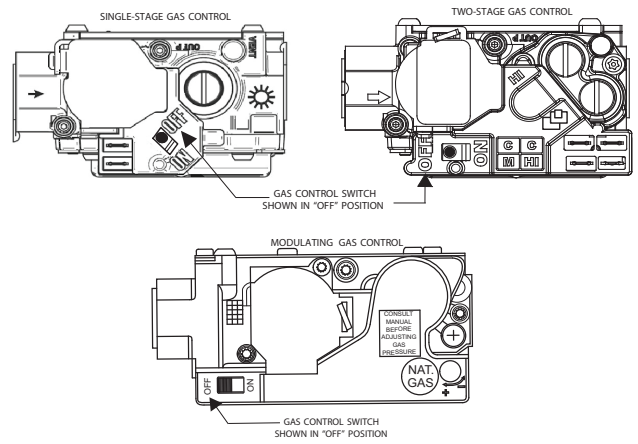

Fig. 19 - Control Switch to OFF
5. Turn control switch on the gas control to "OFF" position. See Fig. 19.